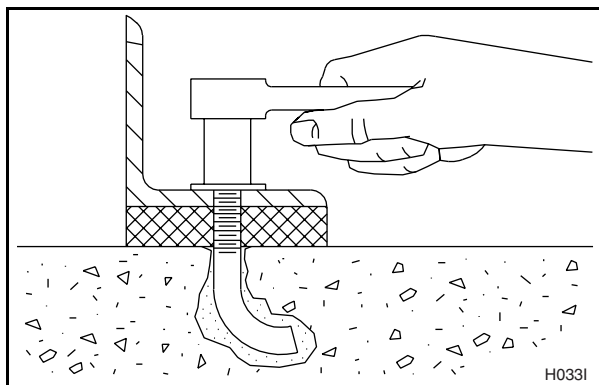

Figure 35
If grouting is not desired, position washers and locknuts on J-bolts and tighten the locknuts by even increments—one after the other—until all are tightened evenly and the machine is fastened securely to the floor. See Figure 35.
15. After the grout is completely dry, tighten the locknuts by even increments—one after the other—until all are tightened evenly and the machine is fastened securely to the concrete foundation pad. See Figure 35.